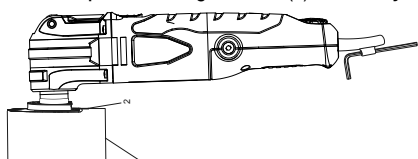

Figure 7
2. Place the outlet box on the drywall and use a soft lead pencil to trace the required rectangular hole (1) on the drywall. (Figure 7)